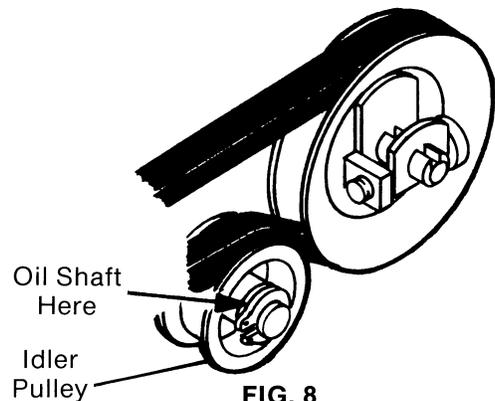

FIG. 8
3. IDLER PULLEY SHAFT - Oil shaft (Fig. 8) once a season for average home use using SAE 30 wt. oil. Turn idler pulley while oiling to distribute oil evenly. NOTE: Be careful not to get any oil onto the belt.